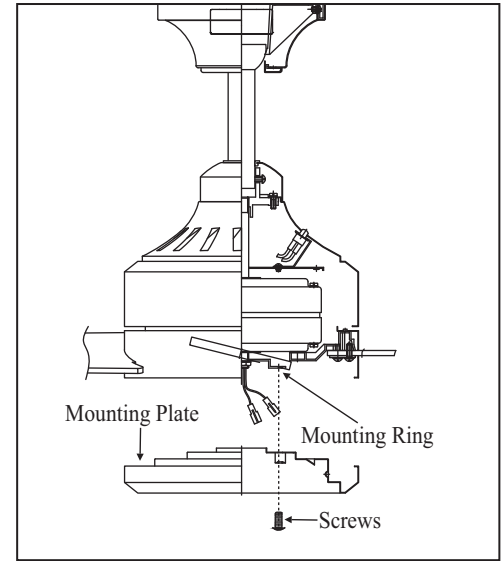

Figure 23
2. Place the key holes on the mounting plate over the 2 screws previously loosened from the mounting ring, turn mounting plate until it locks in place at the narrow section of the key holes. Secure by tightening the 2 screws previously loosened and the one previously removed. (Fig. 23)